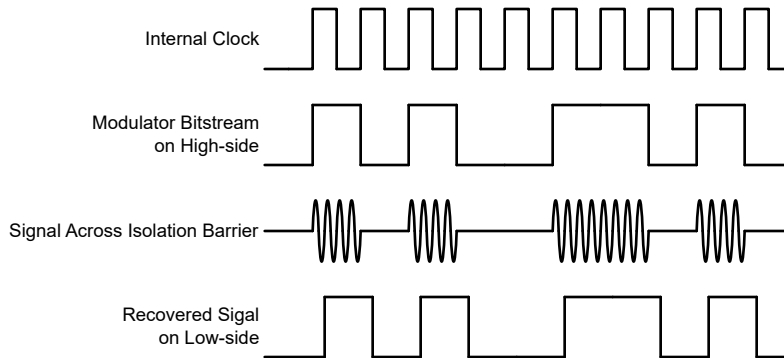

Figure 7-1. OOK-Based Modulation Scheme
The AMC0x30R-Q1 uses an on-off keying (OOK) modulation scheme, as shown in Figure 7-1, to transmit the modulator output bitstream across the SiO₂-based isolation barrier. The transmit driver (TX) as illustrated in the Functional Block Diagram transmits an internally generated, high-frequency carrier across the isolation barrier to represent a digital *one*. However, TX does not send a signal to represent a digital *zero*. The nominal frequency of the carrier used inside the AMC0x30R-Q1 is 480MHz.